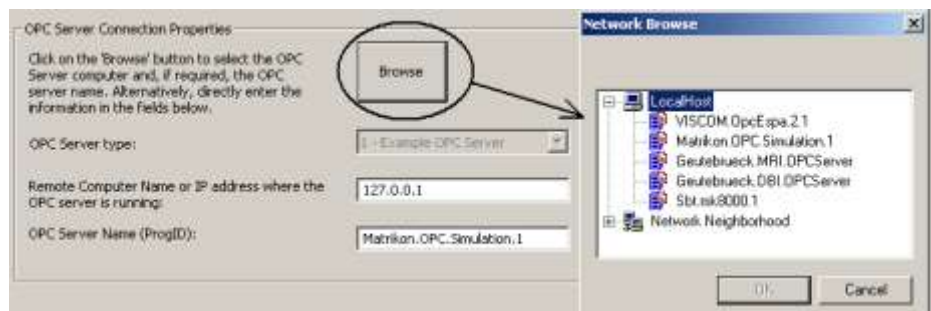

Fig 6 Selecting the OPC server
2. Click the button 'Browse' to show the server selection window (Fig 6).